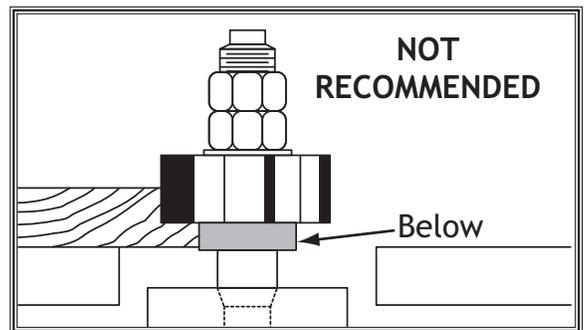

Figure 26. Rub collar mounted below cutter.
- **BELOW THE CUTTER** as shown in **Figure 26**. This setup allows the cut to be viewed by the operator; however, it is also the most dangerous because the operator is exposed to the moving cutter.